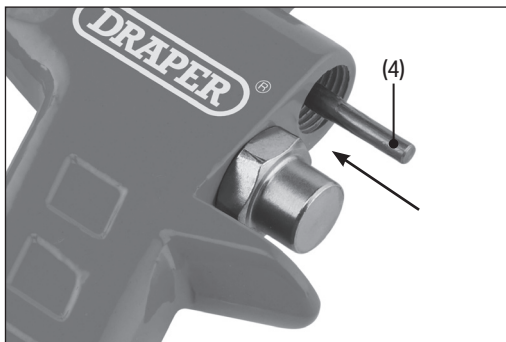

Fig. 5
6. Ensure that the new fluid needle (4) is free from debris and insert it point-first into the needle chamber through the back of the spray gun body (Fig. 5).